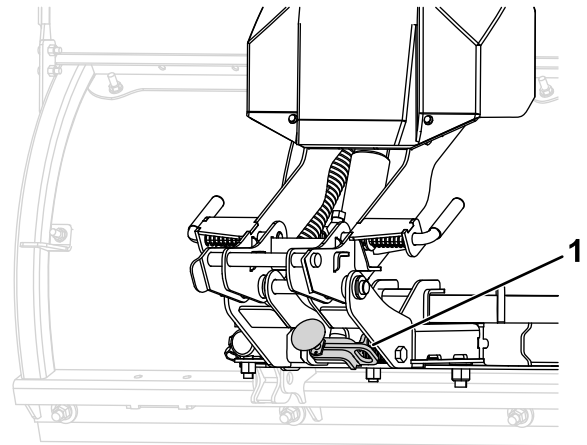

Figure 5
4. Pull the kickstand handle outward and rotate it, to lower the kickstand (Figure 5).